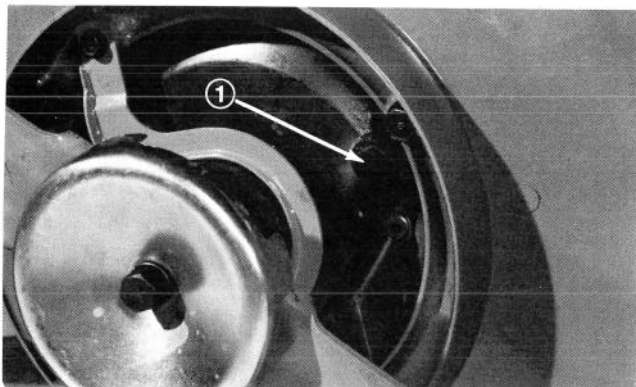

Figure 35
3. Remove drain plug (Fig. 35) and tip mower back to normal position to drain oil.